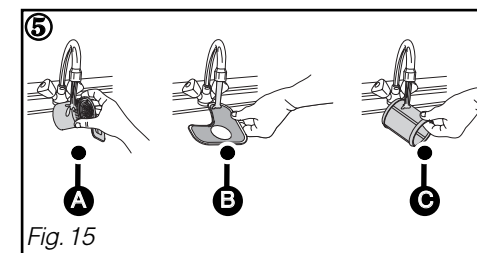

Fig. 15
- ② Loosen the waste filter a quarter of a turn and then remove it (A)
- ③ Remove the main filter (B)
- ④ Remove the micro filter (C)
- ⑤ Carefully clean filters (A), (B) and (C) under running water (Fig. 15)